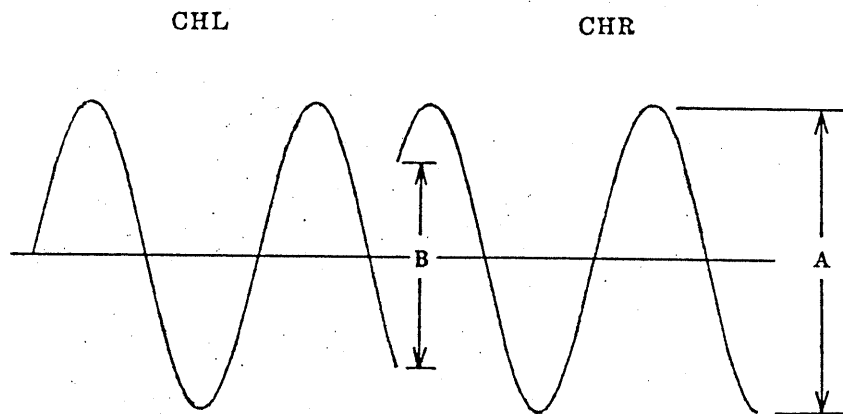
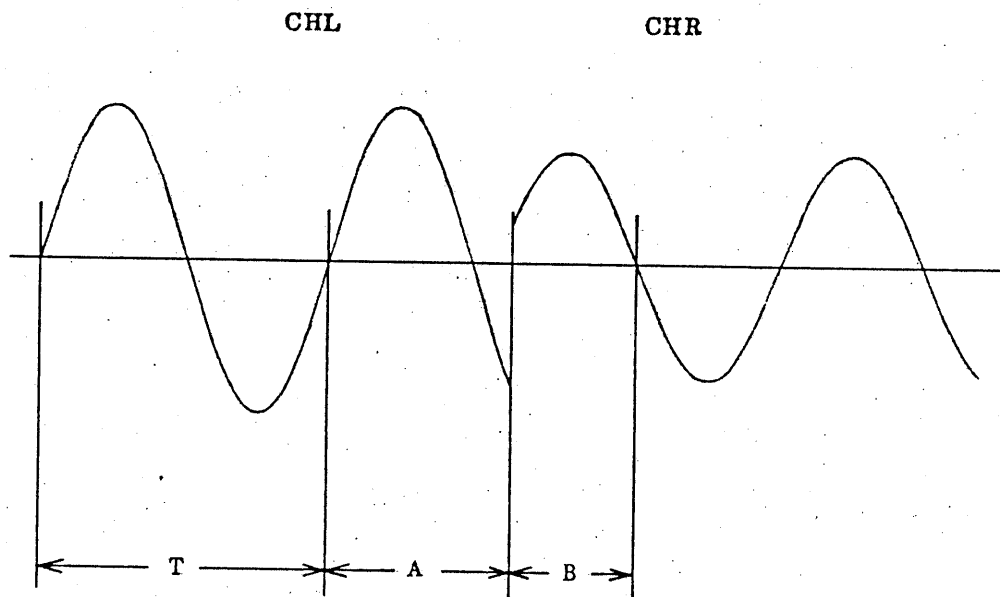

Fig. 4
Fig. 5
Set the TRIGGER MODE switch (24) in the CHL state. Apply to the CHL VERT INPUT terminal (6) the signal to be used as reference and to the CHR VERT INPUT terminal (8) the signal to be measured. Adjust the displayed signals of CHL and CHR to the same amplitude with the VERT GAIN switches (12) and (14) and VAR controls (13) and (15). Align the vertical positions of the two signals with the POSI BAL control (17). Determine the vertical distances A (DIV) and B (DIV) between reference signal and measured signal as shown in Fig. 4. The phase difference  $\alpha$  between the two signals is calculated as follows:
Set the TRIGGER MODE switch (24) in the CHL  state. Apply to the CHL VERT INPUT terminal (6) the signal to be used as reference and to the CHR VERT INPUT terminal (8) the signal to be measured. Determine the horizontal distances from the point where the CHL and CHR signals contact by falling on the same vertical line to the points where the signals crosses the horizontal base line as shown in Fig. 5. Denoting the distances by A (DIV) and B (DIV) and the signal period by T (DIV) as shown in Fig. 4, the phase difference  $\alpha$  is calculated as follows: